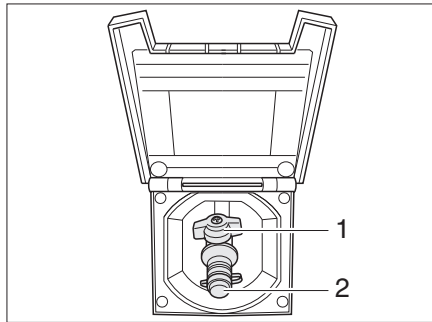

Fig. 232 External gas connection, gas isolator tap closed
The external gas connection (Fig. 232) is located at the right-hand side of the vehicle. In exceptional cases the external gas connection is also located on the left-hand vehicle side or the rear.
- Connect the external gas device to the connection point (Fig. 232,2).
- Open the gas isolator tap (Fig. 232,1).